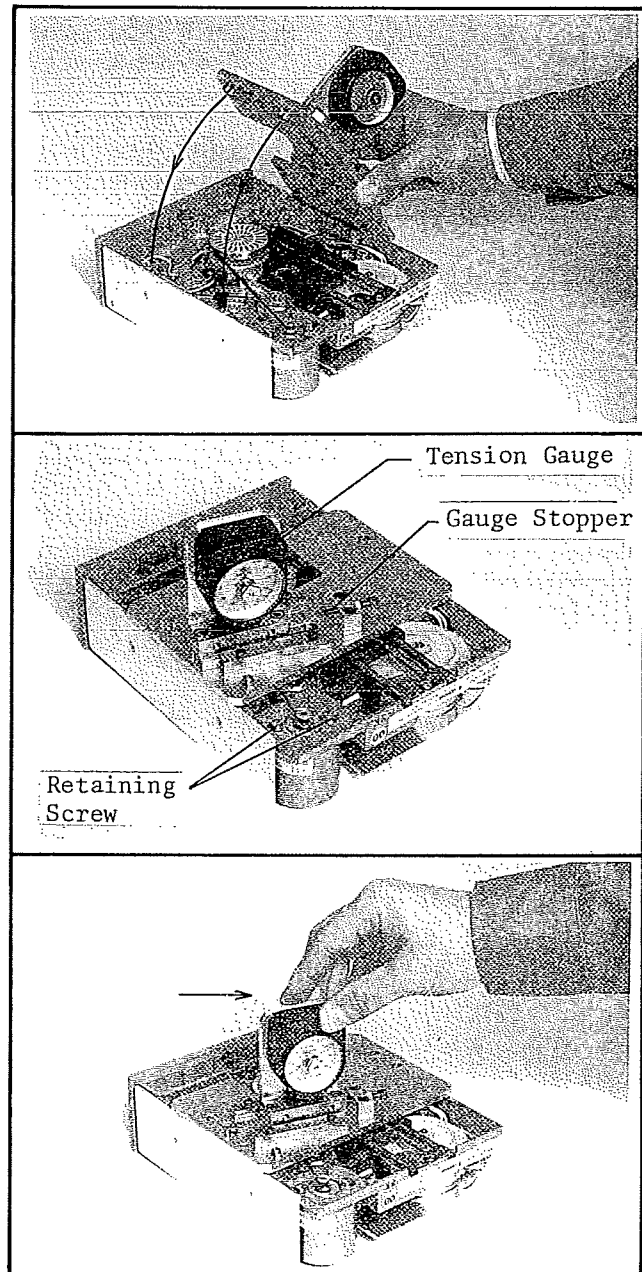

Figure 5-26. Drive Belt Tension Check and Adjustment Setup.
2. Carefully put the FDD on its top side, and set the tension gauge as shown in Figure 5-26.